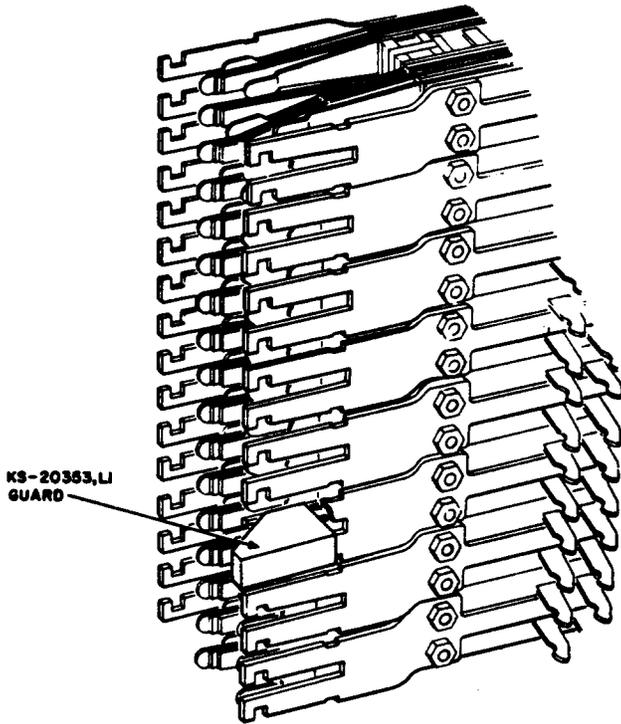

Figure 55—KS-20353, L1 Guard Mounted on 444-Type Jack (301 Connector)
6.12 The KS-20353, L1 guard (Figure 55) mounts on 444-type jacks (301 connector) to protect terminals against accidental contact. It consists of a molded, red thermoplastic material having a cavity on one side and a rectangular hole through the opposite side.